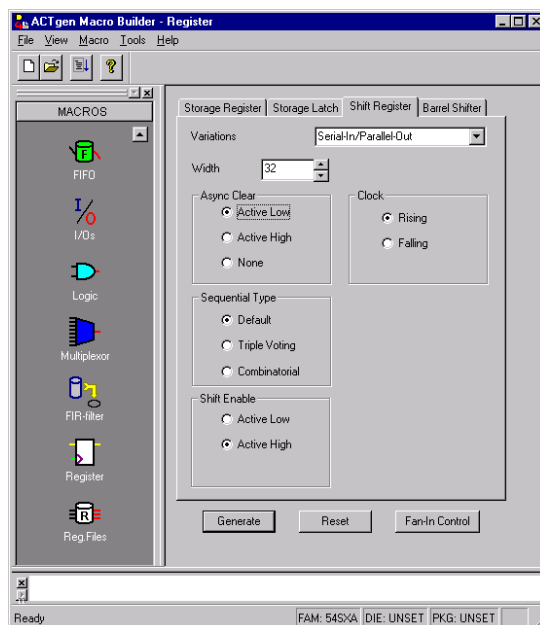

Figure 4 - ACTgen GUI
4. From the left side of the ACTgen GUI select **Register**, then choose the Shift Register tab, and specify the following options (Figure 4):